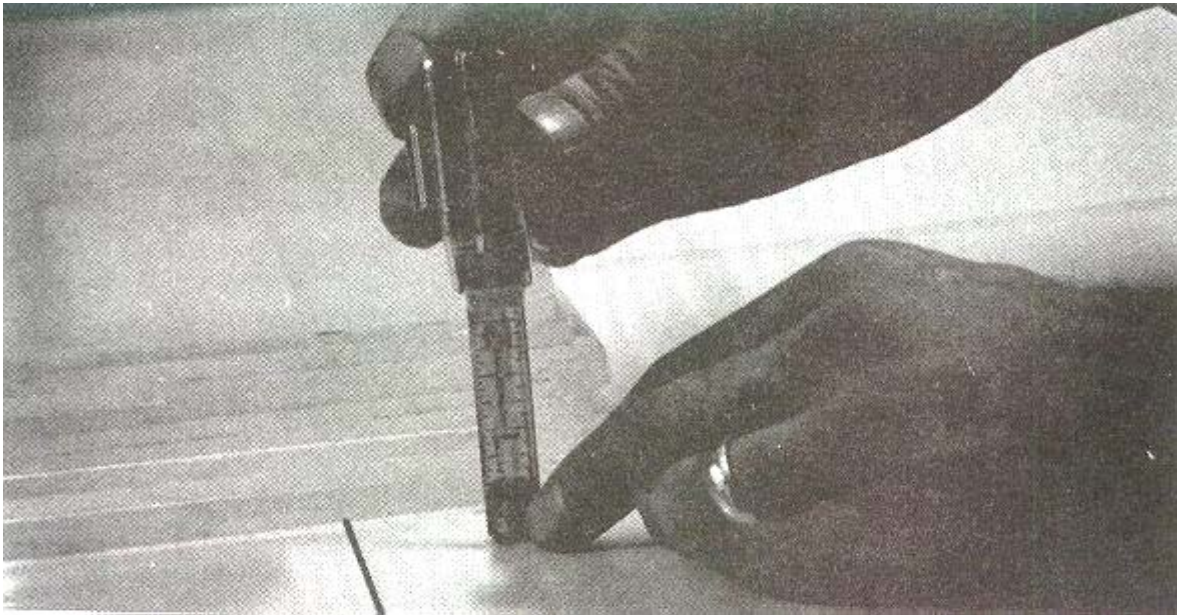

Figure 4-29. Base section measures only two inches.
- b. Remove two sections of the phantom; only the base section of two inches remains (see figure 4-29).